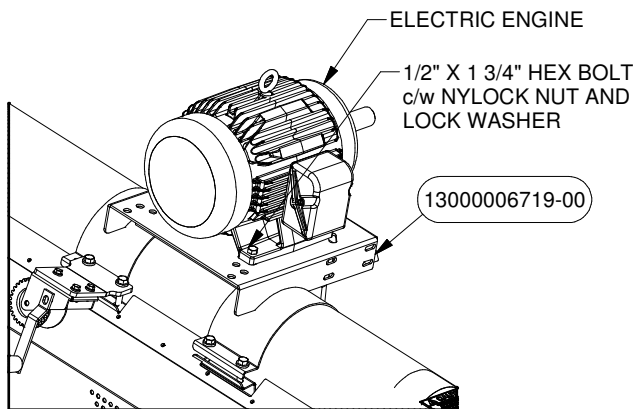

FIGURE 37
6. Attach the Electric Engine to the Engine Mount PN# 6719 using Hex Bolts c/w Nylock Nut and Lock Washers as shown in Figure 37.